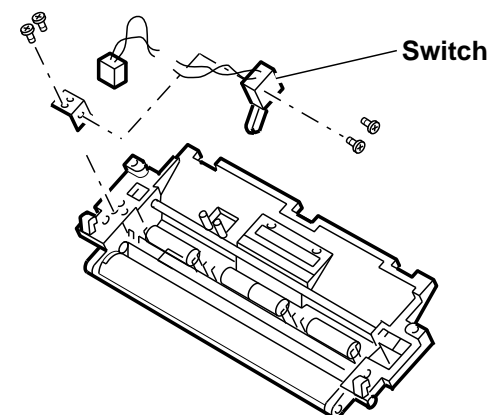

Figure 1. Scanner interlock
4. Cut cable tie and remove two screws (Figure 1) retaining the interlock to the bracket.